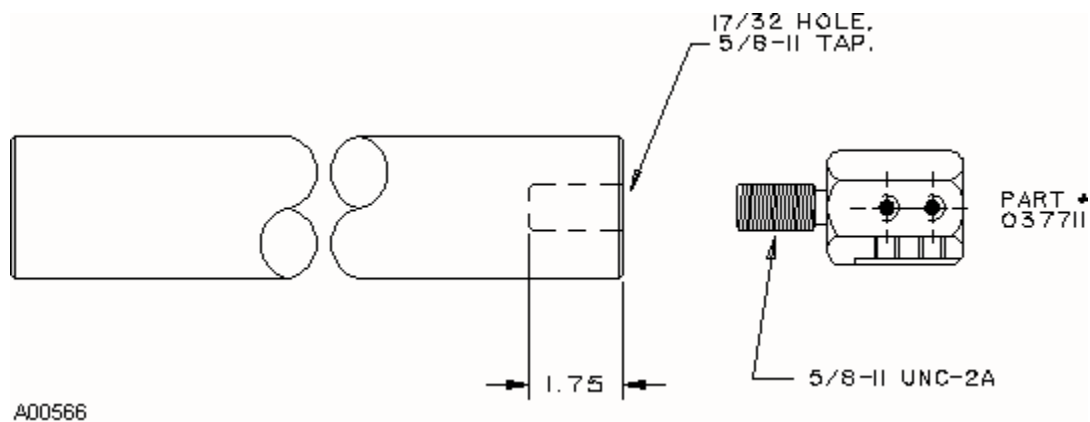
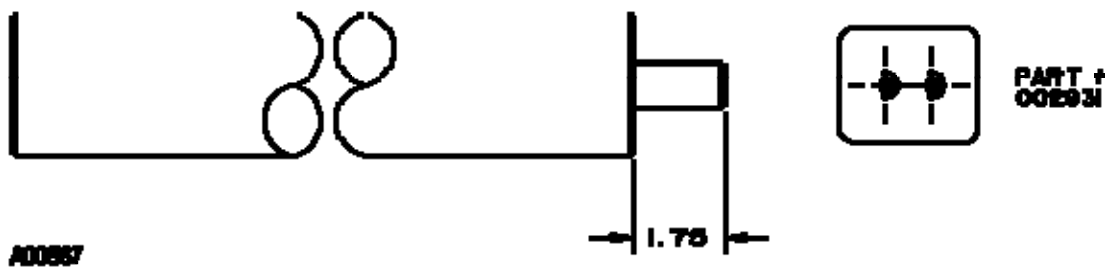
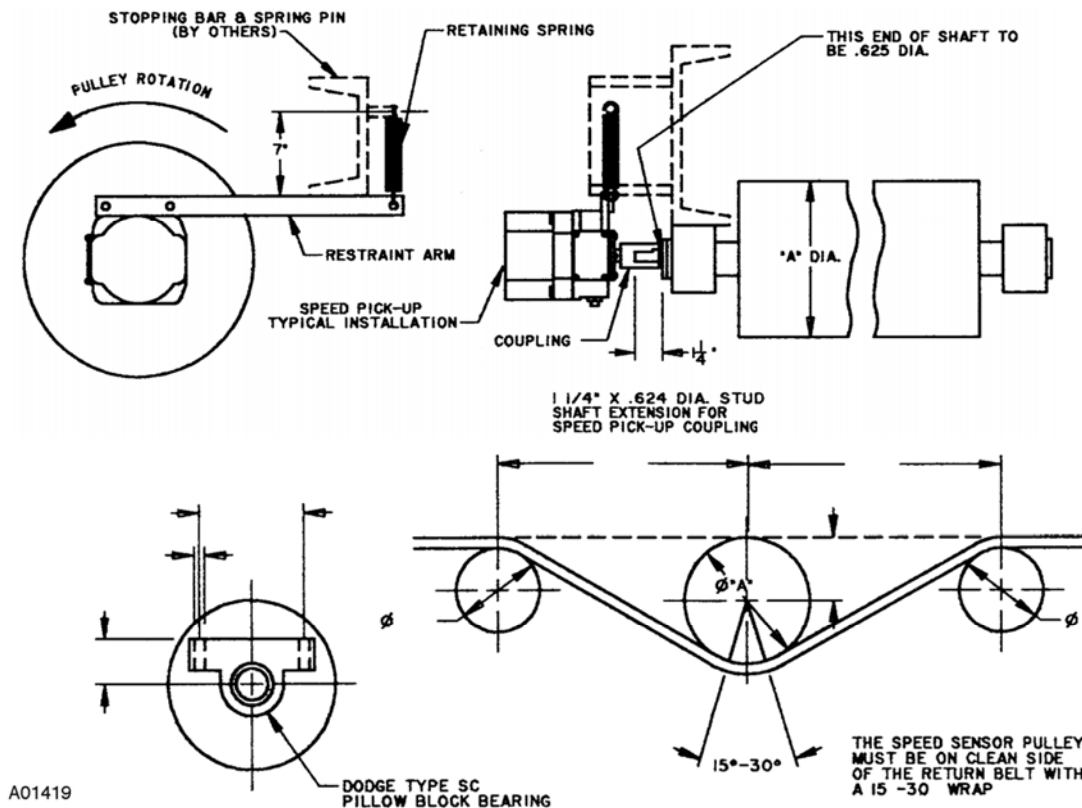

Figure 2. Method A Installation
Figure 3. Method B Installation
Figure 4. Mounting Illustration
Two methods of coupling the speed sensor to the pulley shaft are shown in Figure 2 and Figure 3. Other methods may work as well. The most important requirement is that the speed sensor remains free floating and not rigidly coupled to the conveyor frame.
Locate the exact center of tail pulley or snubbing roll shaft. The Centering Template for Speed Sensor located at the end of this manual may be cut out and used as a centering guide. (Refer to Figure 2.)
4. Thread in supplied stub shaft coupling (part #037711) so that coupling collar bottoms out against tail pulley or snubbing shaft. See Figure 2.
If customer's tail pulley shaft has a 5/8" diameter stub shaft extending from it and is concentric with the centerline of the driving shaft, use part #002931 to couple 60-12 speed sensor to tail pulley shaft (refer to Figure 3). This coupling is not supplied with the speed sensor but may be purchased separately from Thermo Fisher Scientific.
Align shaft flat spots with set screws on coupling. See Figure 3. *Tighten all set screws securely.*
1. Attach restraint arm to speed sensor with two (supplied) 5/16" x 1-1/4" bolts. See Figure 4. The restraint arm should be mounted in a direction that will allow the sensor restraint arm to twist against the mechanical stop and in the direction of belt travel.
2. Weld or otherwise secure an appropriate mechanical stop such as a piece of scrap iron (or a bolt) to the conveyor frame. Rotate restraint arm to let it rest on the stop. See Figure 4. Make the mechanical stop large enough to accommodate some lateral movement of the restraint arm.
3. Fit one end of the supplied restraining spring through the hole in the end of the restraint arm. Attach the other end to the conveyor frame. Location should be such as to give a 1/2 inch spring stretch. Do not over-tighten spring as this may cause premature failure. See Figure 4.
CAUTION. Unless the installation is consistent with the illustrations shown in *Figure 2, Figure 3, Figure 4,* and as described above, the warranty on the device is void.